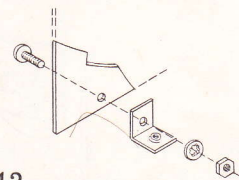

Figure 12
- () Mount the four angle brackets, as in Figure 12 using 6-32 x 3/16 hardware. The brackets face inward.